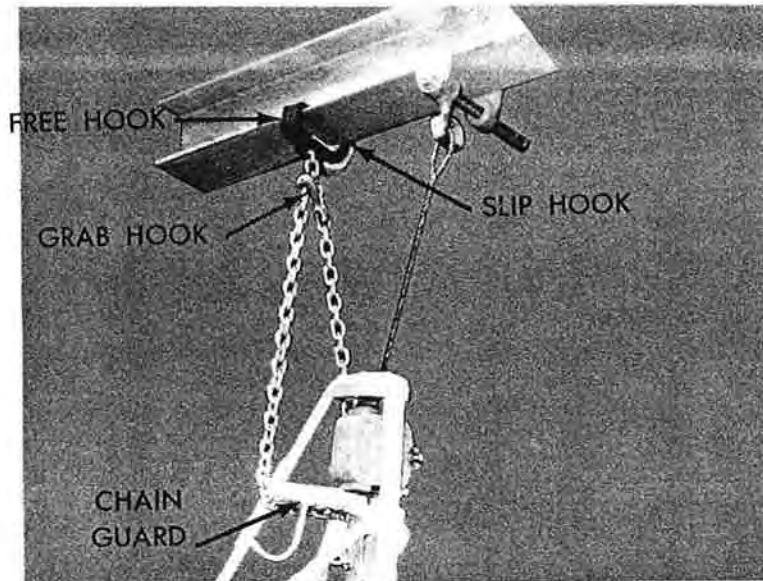

Figure 51
**Transfer Chain SA-1002 (Fig. 51)**